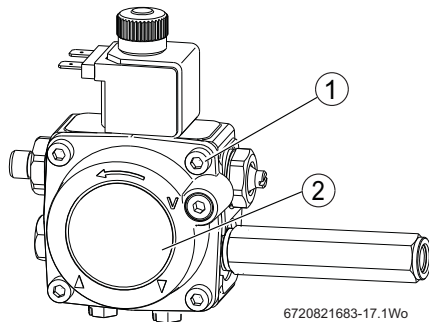

Fig. 88 Pump filter access
- ▶ Refer to figure 88 and remove the oil pump internal filter, clean in Kerosene and reassemble.